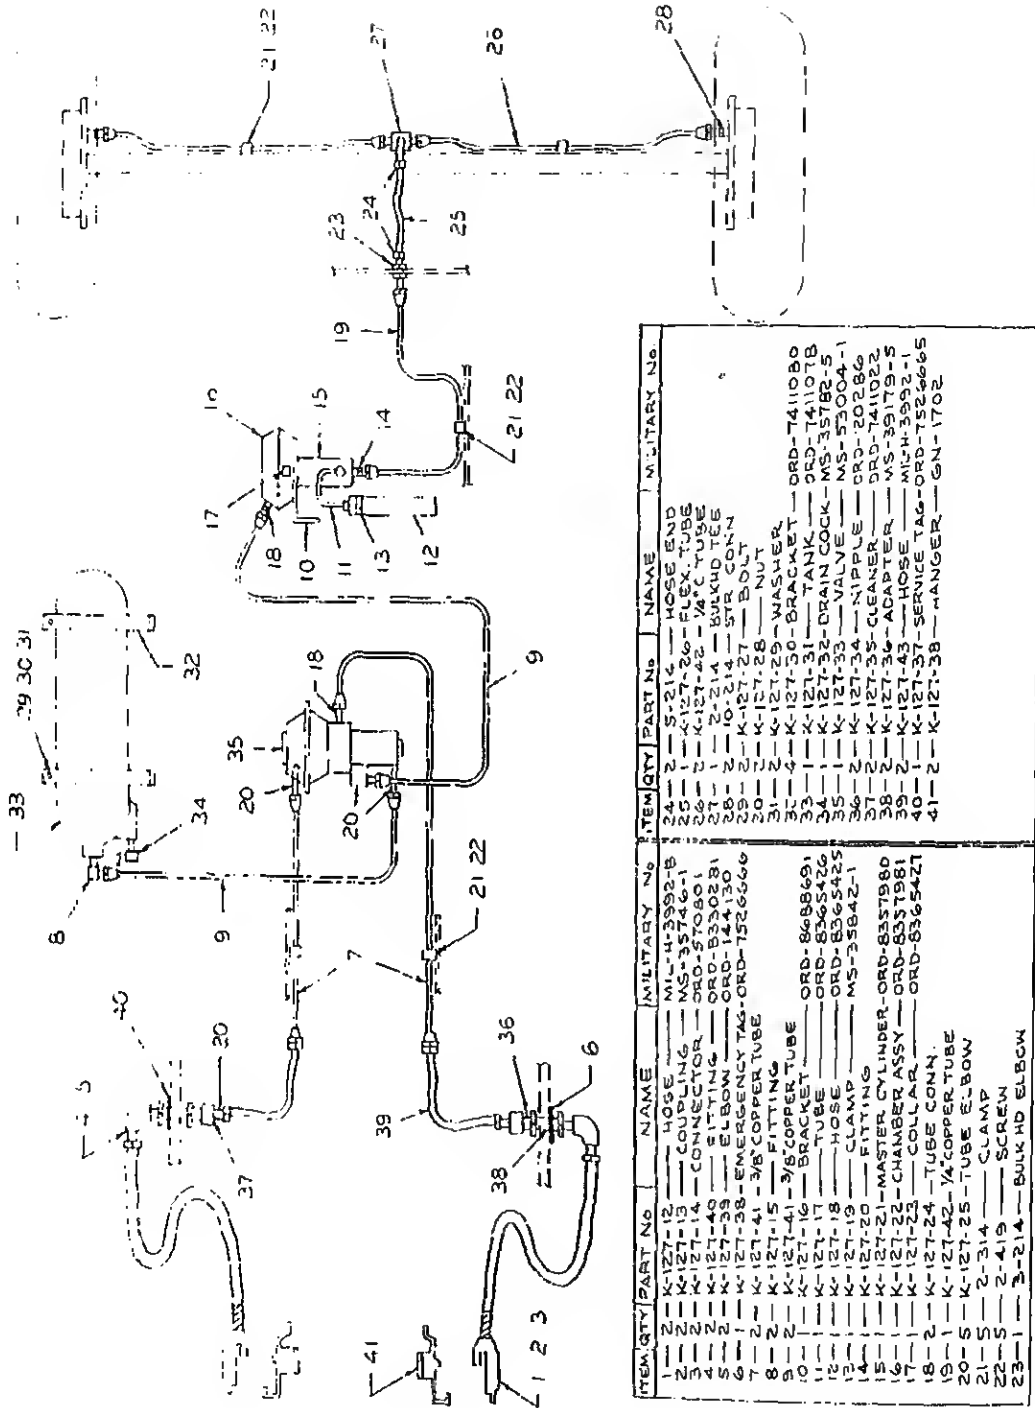

Figure 3-36. Air/Hydraulic Brake System.
(2) *Manual bleeding.* Connect trailer braking system or manual bleeding operations as brake pedal on towing vehicle must be depressed and released to actuate system. The hydraulic master cylinder reservoir as shown in figure 3-36, must be kept full during bleeding operations.
(4) Install upper shoe return spring anchor pine in forward and rear
(5) Install lower shoe return spring handbrake cable. Remove clamp.
(6) Install hub, brakedrum and (para 3-66).
(7) Adjust service brakes (para
(8) Bleed brake system.
(9) Close air reservoir drain cock (fig. 3-36).
3-59. Hydraulic Brake Master Cylinder and Air Chamber Assemblies (fig. 3-36)
(1) Drainage of moisture from emergency relay valves. To drain accumulated moisture, remove drain plug. Replace after drainage (fig. 3-36).
(2) Operating test.